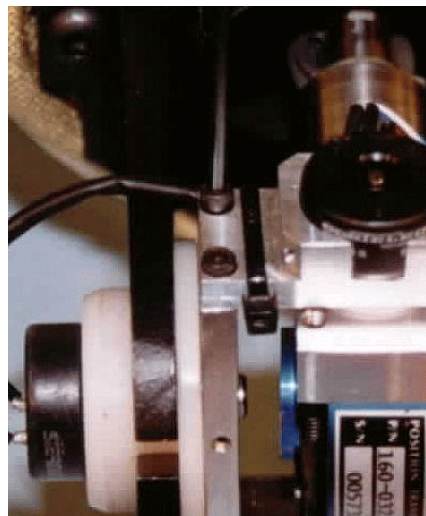

Figure 10.14- DGSP assembly
13. Place the Teflon washers onto the lower trunnions of the String Potentiometer Assembly (T1DPM300) and reinsert the trunnion into the bearings of the DGSP yoke left arm. Replace the two #4-40 x 3/8" SHCS that hold the Right Yoke Arm (T1DPM213) to the Left Yoke Arm (T1DPM212) and Gimbal Assembly (T1DPM200) as shown in **Figure 10.14**.